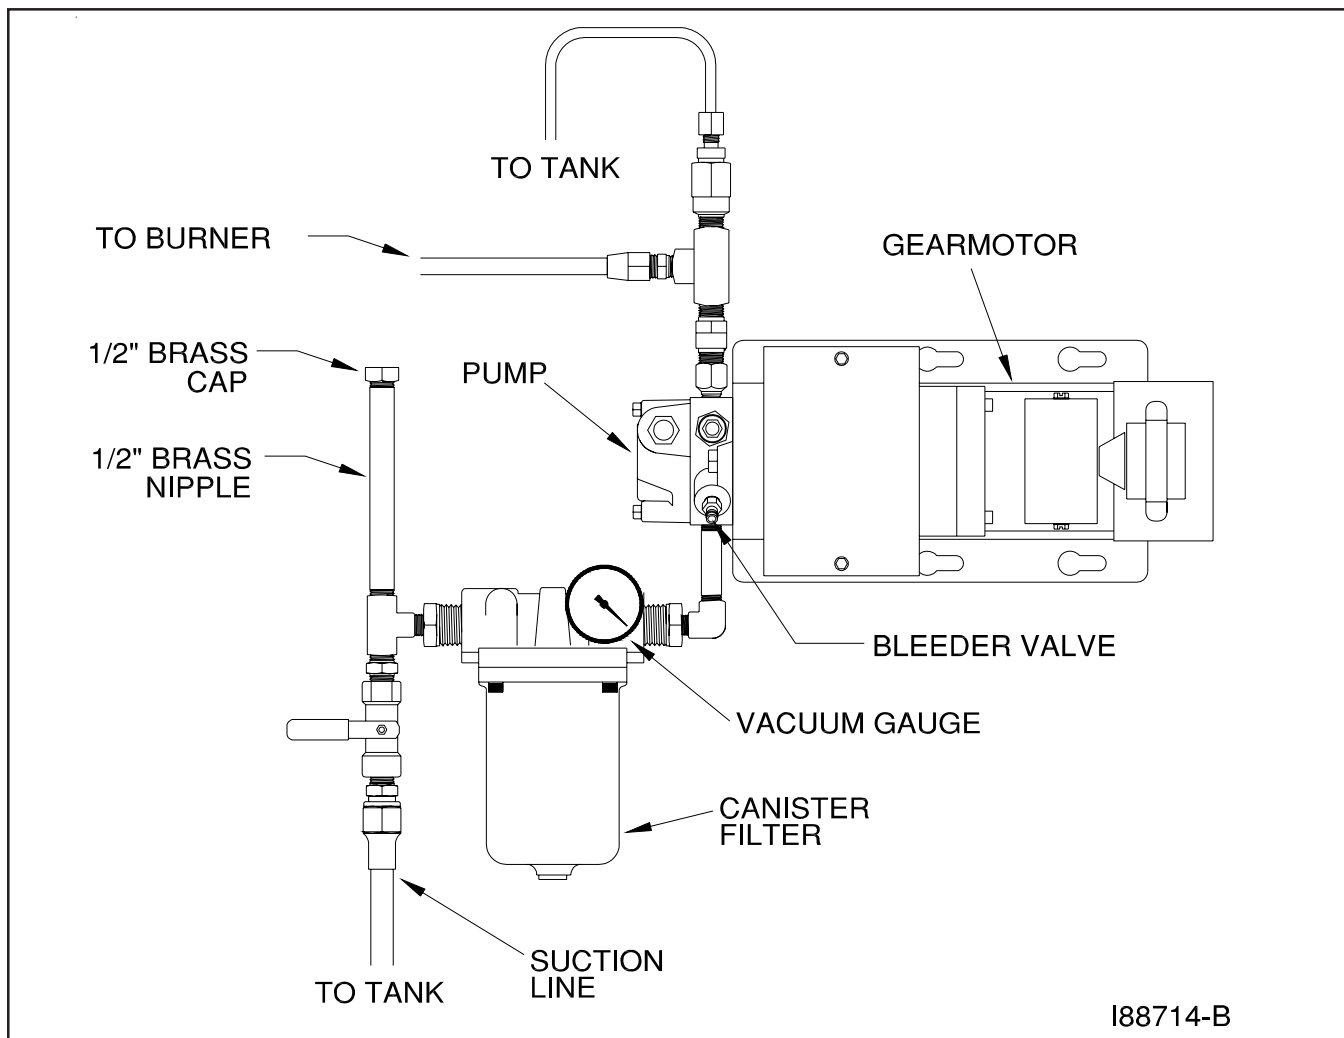

Figure 5C - Priming the Metering Pump
1. Refer to Figure 5C.
3. Refer to Figure 5C. Close the ball valve and observe the vacuum gauge.